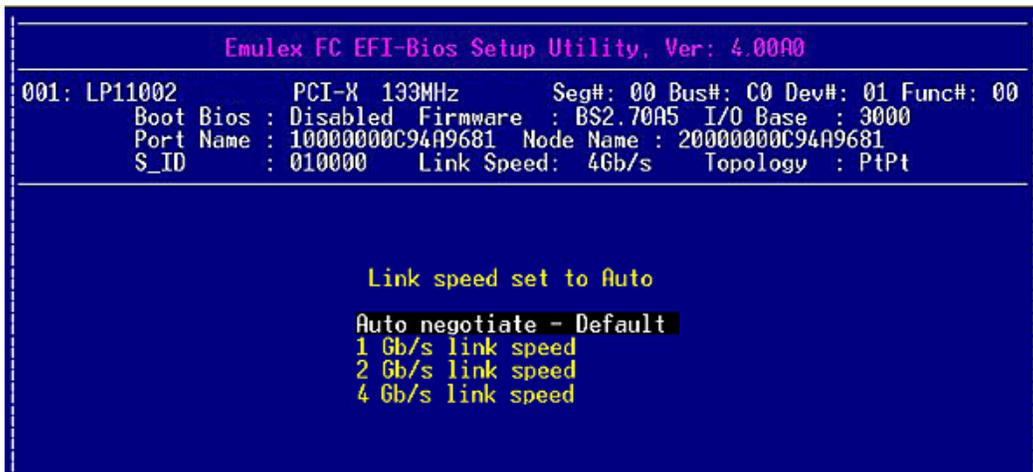

Figure 33: Force Link Speed Setup screen
Use this feature to change, or force, the link speed between ports instead of auto negotiating. The supported link speeds depend upon the adapter. The screen (Figure 33) will only show options that are valid for the current adapter.
- On the Adapter Configuration menu, select **4. Force Link Speed** and press **<Enter>**. A screen similar to Figure 33 is displayed. Possible link speeds depend upon your adapter model.